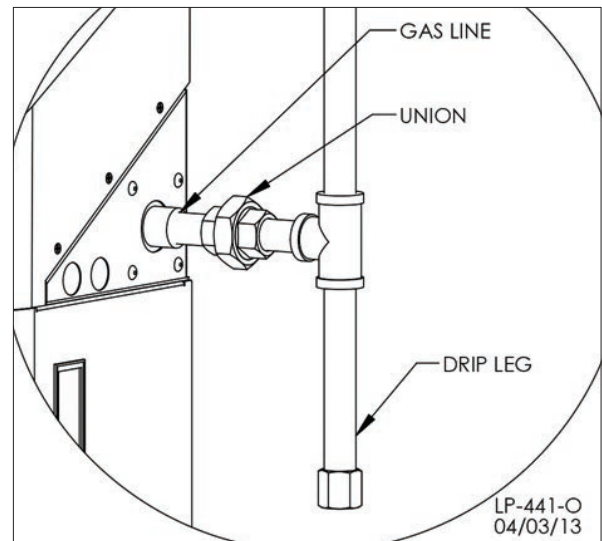

Figure 22 - Gas Connection
5. The National Fuel Gas Code (NFPA 54) requires that a sediment trap (drip leg) be installed in the gas line on appliances not so equipped. The drip leg must be accessible, a minimum of 3" in length, and not subject to freezing conditions. See Figure 22.